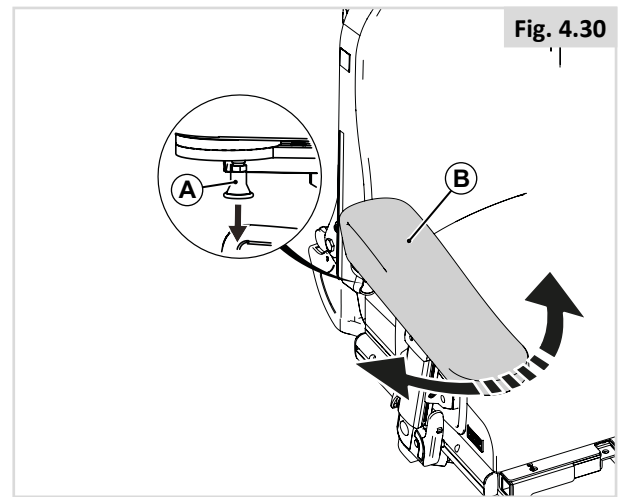

Fig. 4.30
4.9 Hemiplegi-armlene (Fig. 4.30)